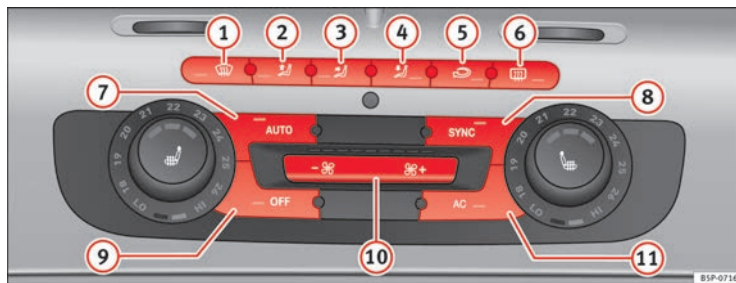

Fig. 136 On the dash panel: 2C Climatronic controls. ►
- To enter manual mode, press one of the buttons \Rightarrow Fig. 136 ① to ⑤ or press the air flow control ⑩. The selected function is shown on the radio or navigator display.
- Press the button \square \Rightarrow Fig. 136 ② to switch air recirculation mode on or off. It is switched on if the following symbol appears in the display \square .